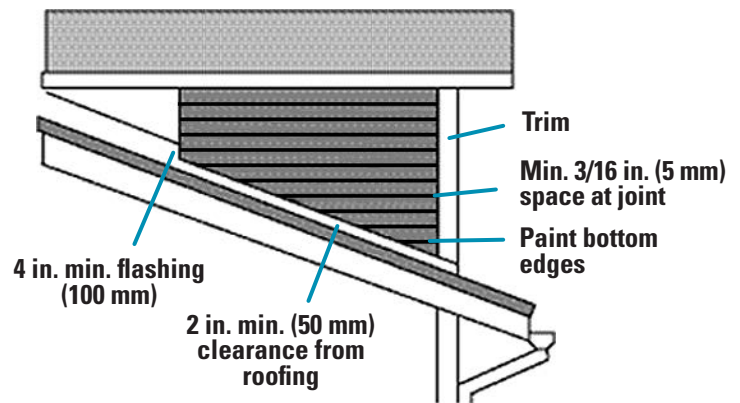

FIGURE 3
- b) Install continuous outside corners, if these are used in lieu of individual outside corners. Install continuous inside corners. See Figures 3, 3A, 3B, & 3C.